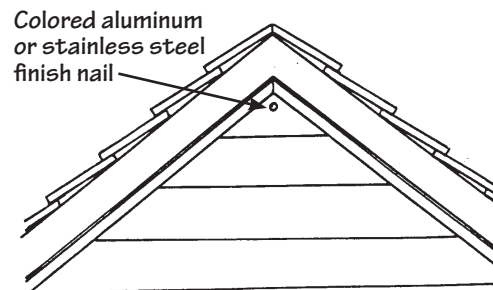

Figure 46.
- It may be necessary to fasten the last panel at the gable peak with a trim nail. Use a 1 1/4" to 1 1/2" (31.8mm to 38.1mm) nail. This is one of the few times a nail should be placed in the face of the vinyl siding (Fig. 46).